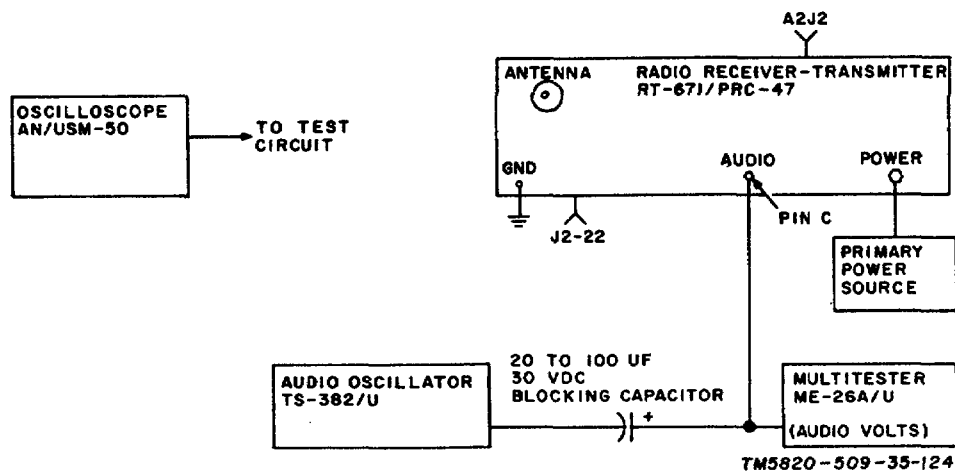

Figure 3-109. Microphone Amplifier and VOX Gain Adjustments, Test Equipment Setup.
(1) Remove the RT-671/PRC-47 from its case using the procedures of paragraph 3-11.
(2) Connect the primary power source to the POWER connector on the front panel of RT- 671 /PRC - 47.
(3) Connect the audio oscillator, oscilloscope, multimeter, and blocking capacitor to the receiver-transmitter as shown in figure 3-109.
(4) Set the audio oscillator to 1700 Hz and adjust the output level at pin C of the AUDIO connector to 0.1 volt rms.
(5) On the front panel of RT-671/PRC-47, set the controls as follows: